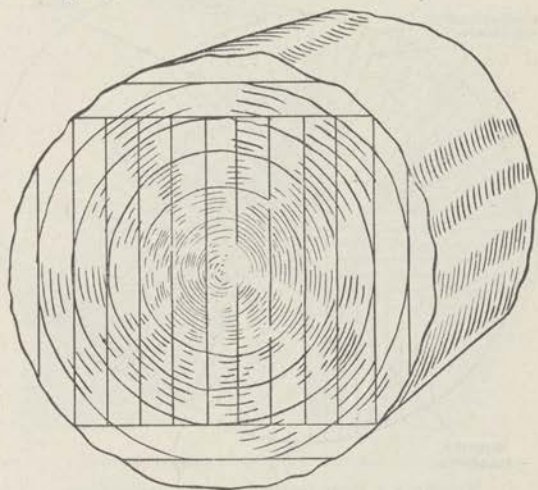
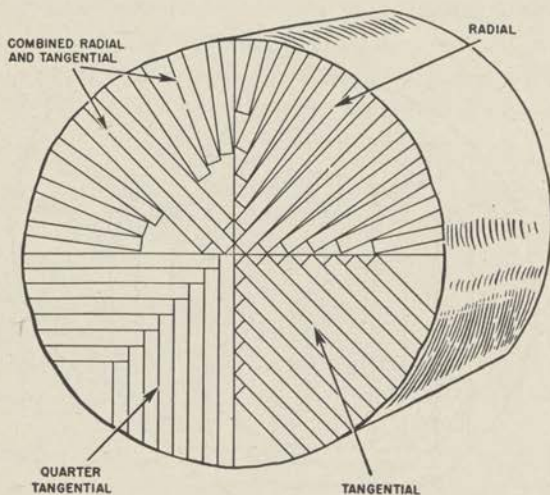

FIGURE 3.—Plain, "flat," or "slash" sawing.
FIGURE 4.—Four methods of quarter-sawing.
(1) Tangent to the annual rings, producing plain-sawed lumber in hardwoods and flat-grain or slash-grain lumber in softwoods.
(2) Radially, or parallel to the rays, producing quarter-sawed lumber in hardwoods and edge-grain or vertical-grain lumber in softwoods. Plain sawing is illustrated in figure 3. The pieces sawed off the outside sapwood to square the log, known as "slabs," are not ordinarily used for lumber. Lumber may be quarter-sawed in any of the four ways illustrated in figure 4, at the discretion of the sawyer. Quarter-sawed lumber often has not only a handsomer surface than plain-sawed, but also holds its shape better. Boards shrink most in a direction parallel with the annual rings; hence radial sawing, which cuts across the rings, holds warping to a minimum.